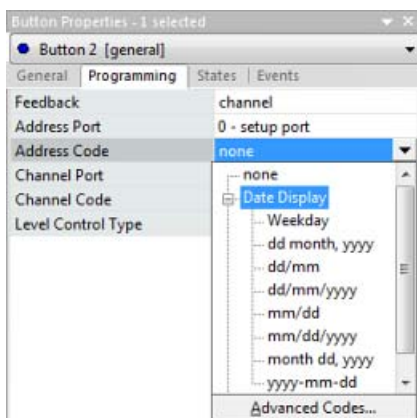

FIG. 407 Address Code: Date Display options
5. Click the plus (+) symbol next to **Date Display** to expose a drop-down menu of time display formats to choose from (FIG. 407):